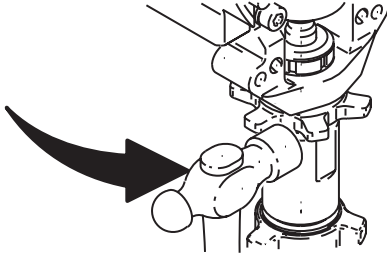

FIG. 20
3. FIG. 20. Screw locknut down into pump until nut stops. Screw pump up into bearing housing until it is stopped by locknut. Back off pump and locknut to align pump outlet to best position of hose to filter housing. Tighten locknut by hand, then tighten with a wrench to approximately 75 ± 5 ft-lb (102 N·m).